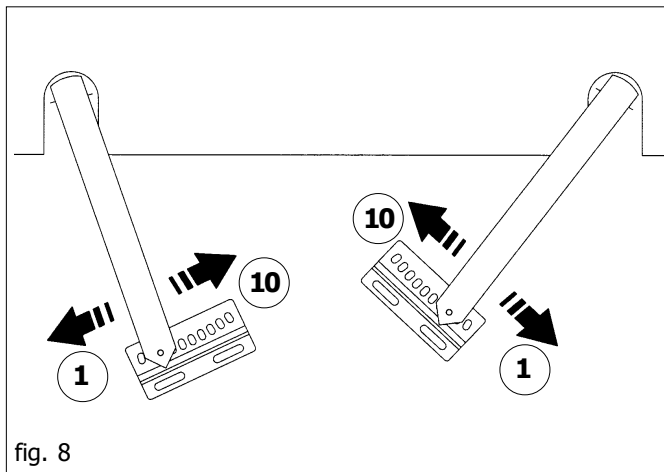
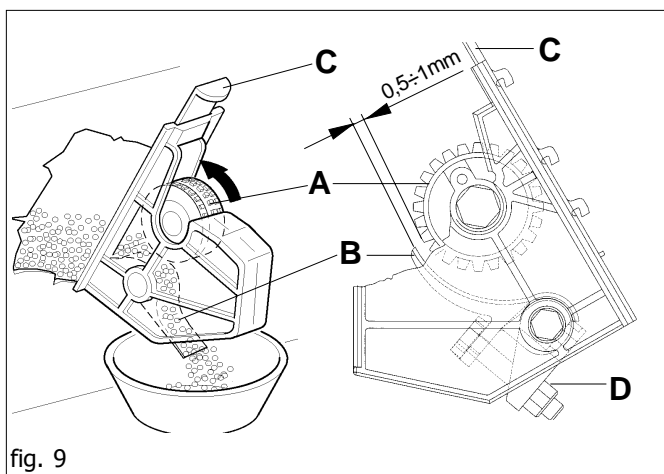
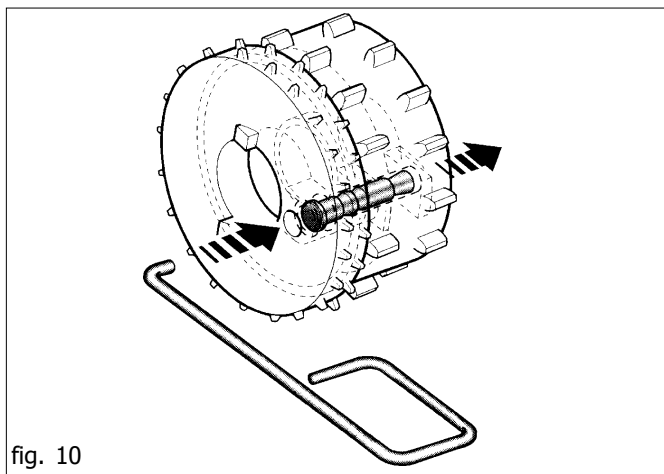
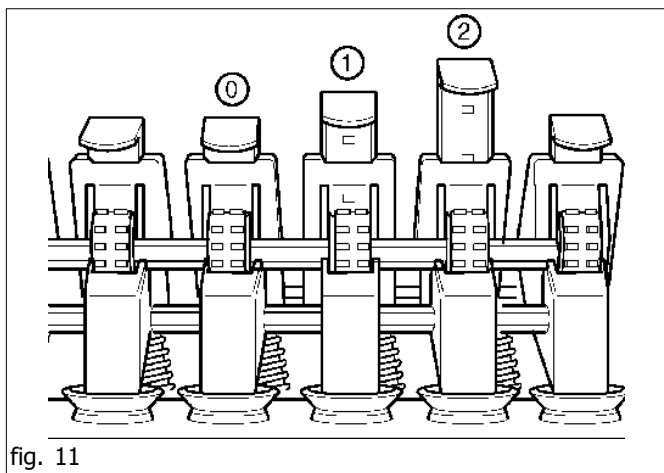

fig. 8
fig. 9
fig. 10
fig. 11
The feeler adjustment lever (Fig. 8) is positioned on the left side of the machine and works according to a graduated scale that runs from 0 - 10 settings. The lever must be set to the number indicated by the sowing table on the basis of the type of seed to be sown. If the feelers (B Fig. 9) are correctly positioned, they assure a fluid and constant distribution of the seeds.
ATTENTION: The lever positioned beyond the maximum opening, causes the discharge of the seeds from the hopper. For best seeding results, periodically check the position of the feeler pins (B): adjust the distance between the feeler and the distributor roller (A) by means of the nut (D) to 0,5 ÷ 1 mm (Fig. 9).
The most appropriate type of seed distributor roller must be selected prior to sowing on the basis of the type of seed being drilled (A Fig. 9). The machine is fitted with rollers for small, medium and large seeds. Select the type of distributing roller according to the information given in Table. Which is selected by inserting the key supplied (Fig. 10) into the slot on the left side of the roller and push the drag retainer all the way out. Perform the a.m. operation in inverse order to return the roller to its initial position.
The sliding doors (C Fig. 9) for the discharging of the seeds from the hopper, have **three adjustment positions** (Fig. 11):
- for large quantities, it is advisable to use the crank on the gear shift to rotate the agitator shaft to better control seed flow into the bins. To empty small amounts of seed, shift the doser lever beyond position 10 (Fig. 8).